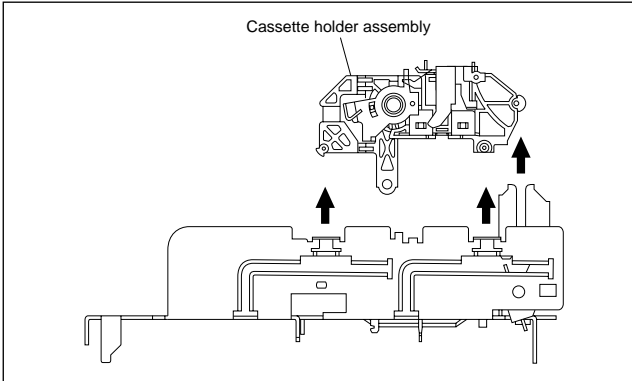
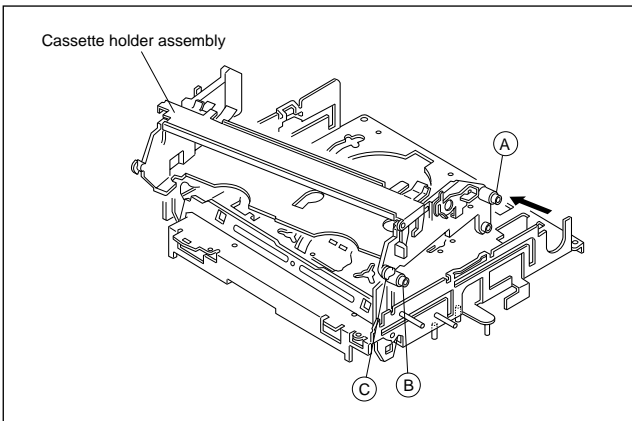

Fig. 2-2-3d
Fig. 2-2-3e
- (5) While holding the left side of the cassette holder, lift the cassette holder assembly so that the three legs on the left side are all released. Then pull the legs (A) and (B) on the right side out of the rail and also pull up the leg (C). (See Fig.2-2-3d and Fig.2-2-3e.)
- (6) Draw out the drive gear, and remove the drive arm.